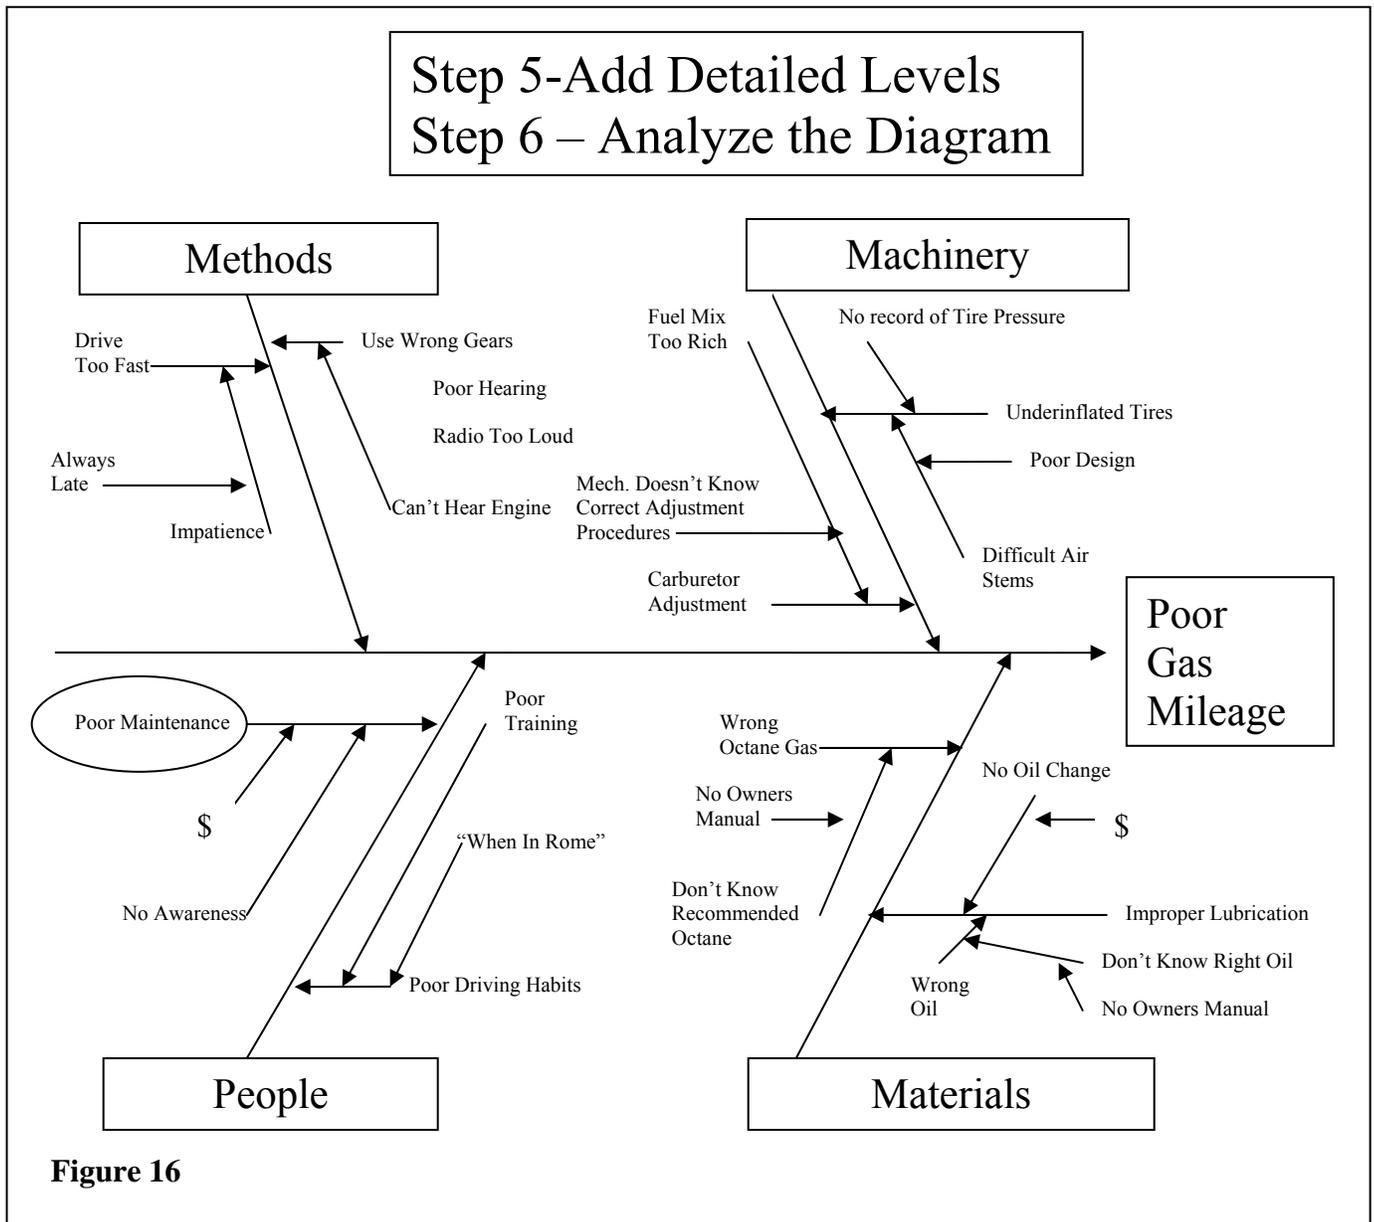

Figure 16
Figure 16 shows how the diagram looks when all the contributing causes that were identified by the series of *why* questions have been filled in. As you can see, there may be many levels of causes contributing to the effect.
- > Moreover, *Poor Maintenance* appears to be a cause that you can take action on. It is circled in Figure 16 to mark it for further investigation.